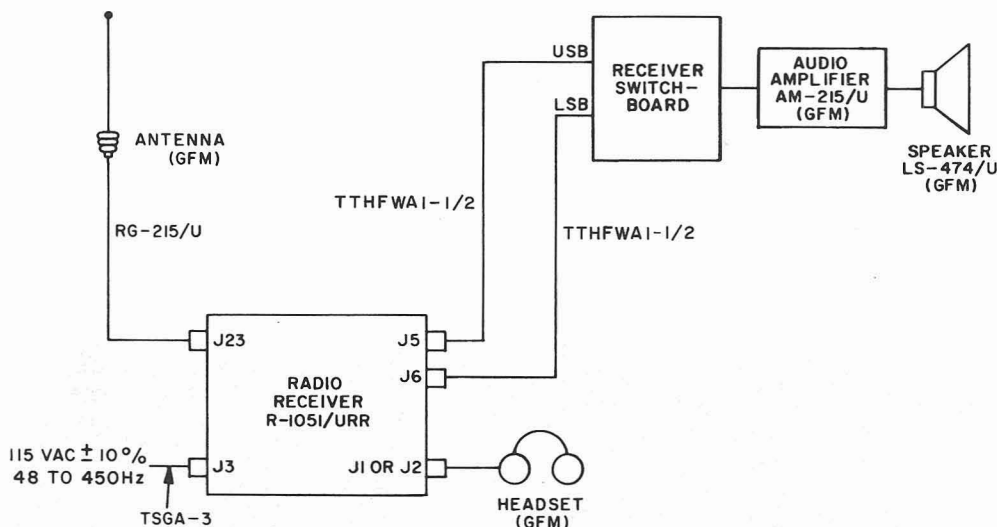

Figure 7-5. Radio Receiver R-1051D/URR, Typical Interconnection Diagram
(2) OPERATION AS INDEPENDENT UNIT. - When the R-1051D/URR is to be operated as an independent unit, connect all cables as shown in figure 7-5. When the R-1051D/URR is to be operated as part of a system, such as Radio Set AN/WRC-1, refer to Section 2 of NAVSHIPS 0967-971-0010 for instructions.
(6) OPERATION USING INTERNAL FREQUENCY STANDARD. - If the internal frequency standard is to be used for operation, ensure that COMP/INT/EXT switch S1 on top of frequency standard electronic assembly A2A5 is set at INT. This electronic assembly is located at the right rear of the chassis.
(7) SIMPLEX OPERATION. - If the R-1051D/URR is to be used in simplex operation, connect all cables as shown in figure 7-5. Then proceed as follows: